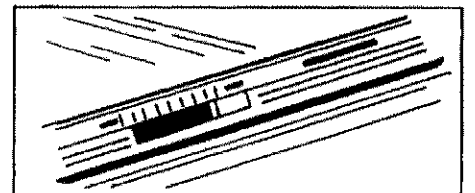

FIGURE 35
**Hi-Humidity Drawers** have a control to regulate humidity inside. Set high humidity for leafy vegetables such as cabbage and lettuce, and set low humidity for produce with skins such as apples and tomatoes. Slide to the left for high humidity and to the right for low humidity. See Figure 35.